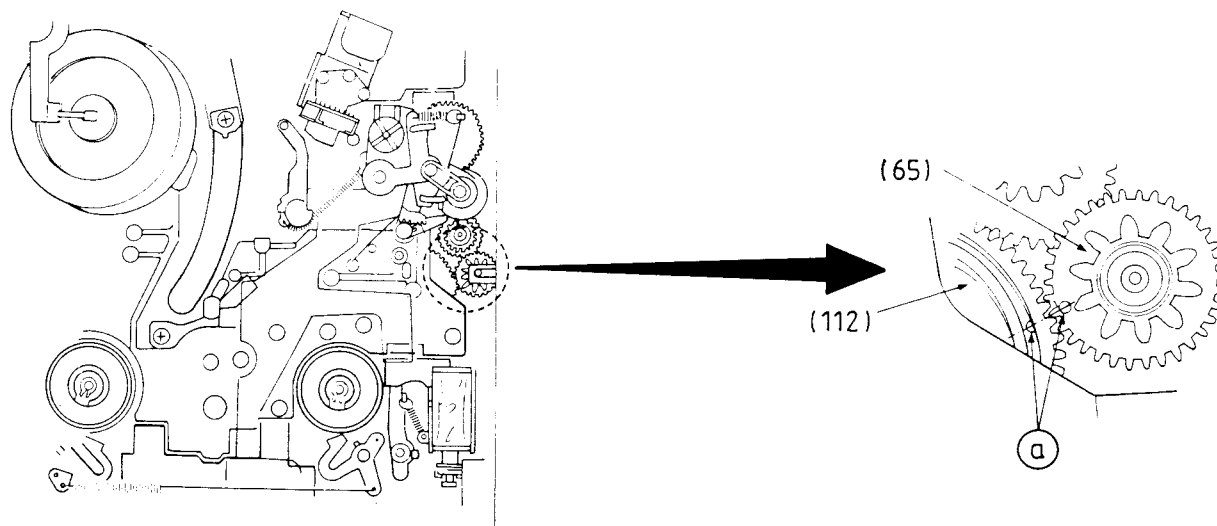

Fig. 52
- Fit the Intermediate Gear (65) as shown in Fig. 52. The marked holes (a) on the Intermediate Gear (65) and the Cam gear (112) must be aligned towards each other.
9.8 Mode Select Switch (55), P5 Toothed Segment (50)